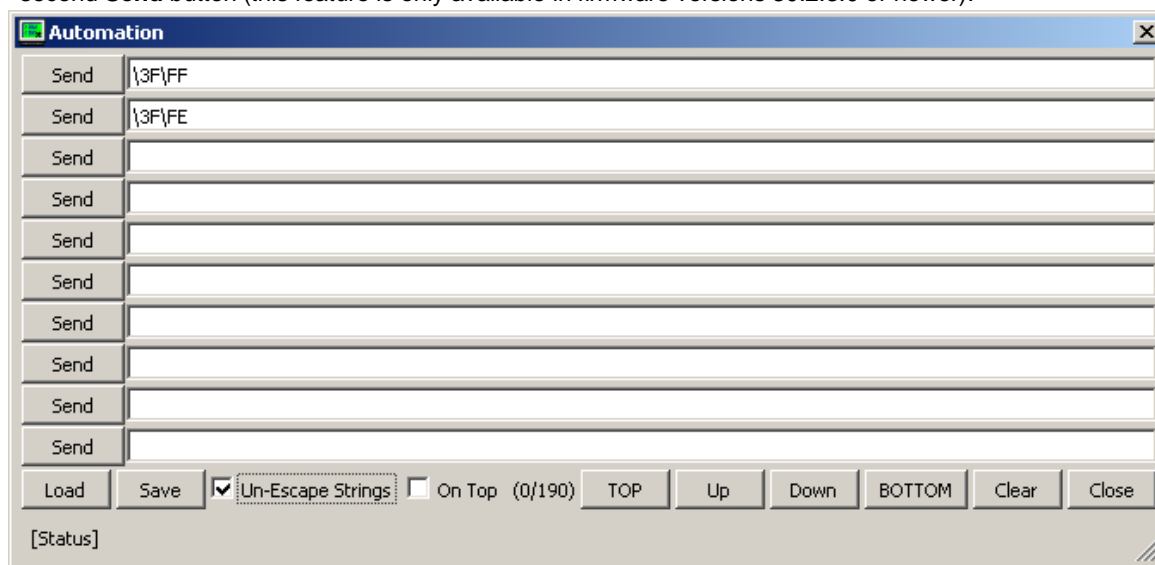

Figure 15: Automation dialogue
4. In the following screen, modify the fields as shown in Figure 15.